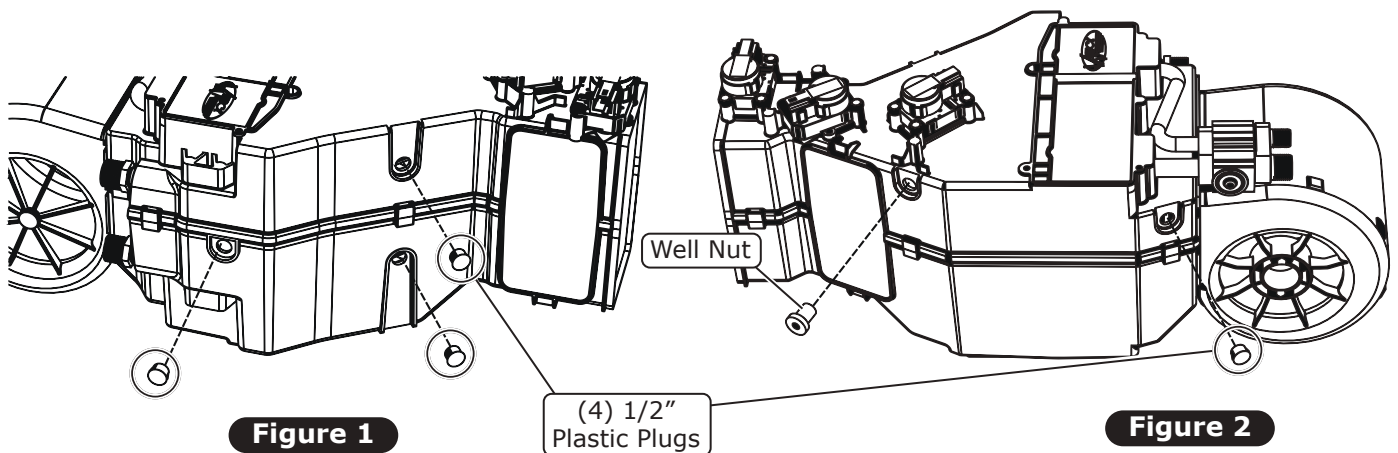

Figure 1
1. Install the (4) supplied 1/2" plastic plugs and (1) well nut, onto the module (See Figures 1 and 2, below).